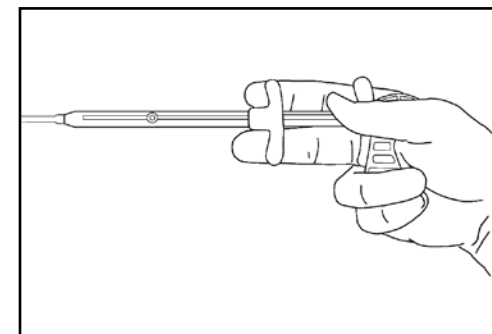

Figure 11. After confirming the stent position, use your index and middle finger to grasp the second deployment trigger.
5.6 After confirming the position of the stent, rest your index and middle fingers on the second deployment trigger (Figure 11).